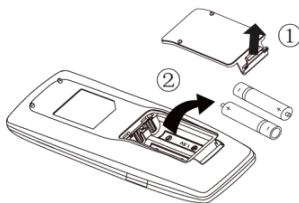

Fig.1
- (1) Lift the cover along the direction of arrow (as shown in Fig 1①).
- (2) Take out the original batteries (as shown in Fig 1②).